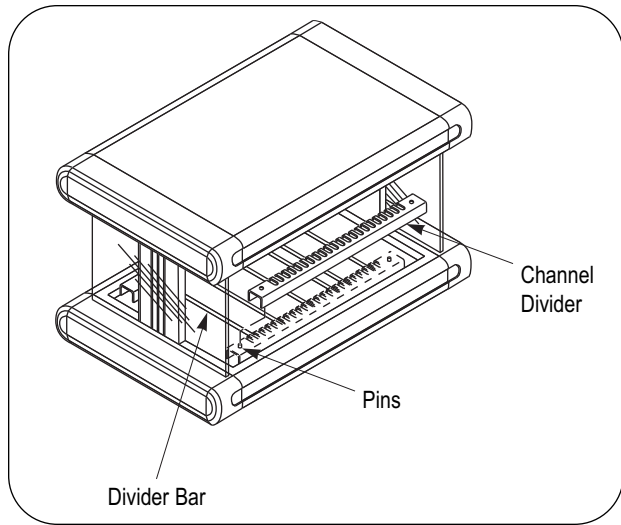

Figure 5. Installing Product Divider Bars
4. The unit is supplied with channel dividers and product divider bars. First install the front and back channel dividers over the pins. To install the divider bars, place them in the channels provided. (See Figure 5.) The bars can be readily adjusted to separate your holding areas as needed.